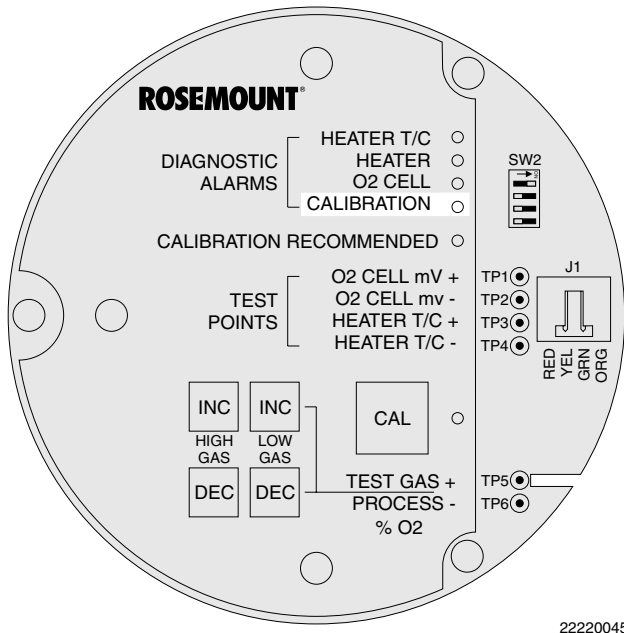

Figure 5-14. Fault 14, Invalid Constant
n. **Fault 14, Invalid Constant.** The CALIBRATION LED flashes twice, pauses for three seconds, and repeats (Figure 5-14).